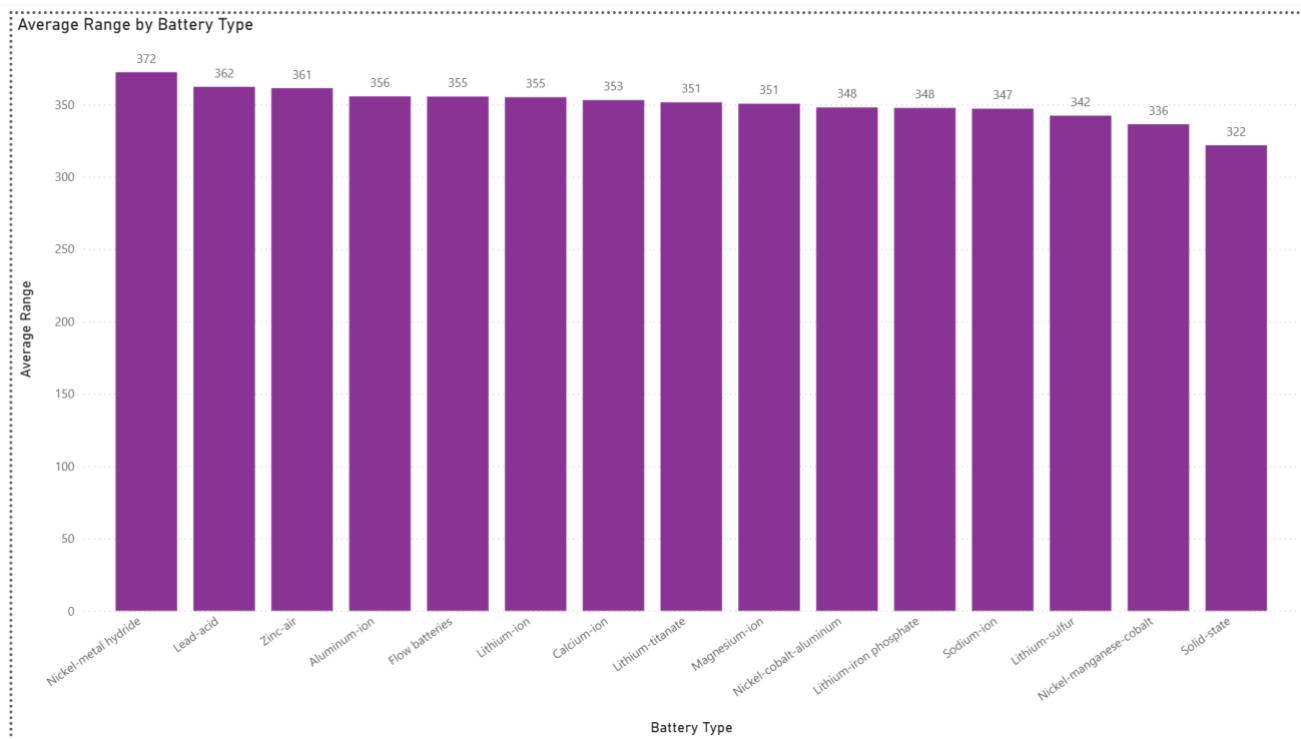

Figure 2: Average Range by Battery Type
The motivation for creating the **Average Range by Battery Type chart** (*Figure 2*) is to establish a clear **performance benchmark for different battery chemistries**, aiding in technology selection and product positioning. This visualization directly **addresses the question of which battery types offer the longest driving range**. The chart reveals that Nickel-metal hydride batteries provide the highest average range at 372 (units not specified, but likely kilometers or miles), followed closely by Lead-acid (362) and Zinc-air (361). Conversely, Solid-state batteries currently exhibit the lowest average range at 322. These findings are crucial for manufacturers deciding on the **optimal battery chemistry to balance cost, capacity, and performance requirements** in new vehicle models.